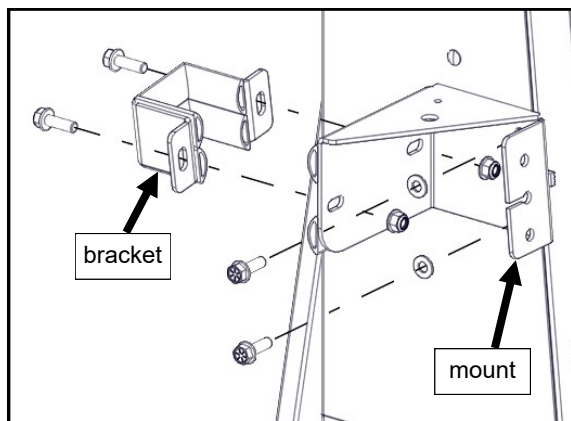

Fig. 10.1 (Right ROPS Bracket Installation)
**10.1** Install Right ROPS mount onto right sideframe (through rear leg if premium cab).. Next, install ROPS bracket onto mount—no plastic washer on bracket. See fig. 10.1.